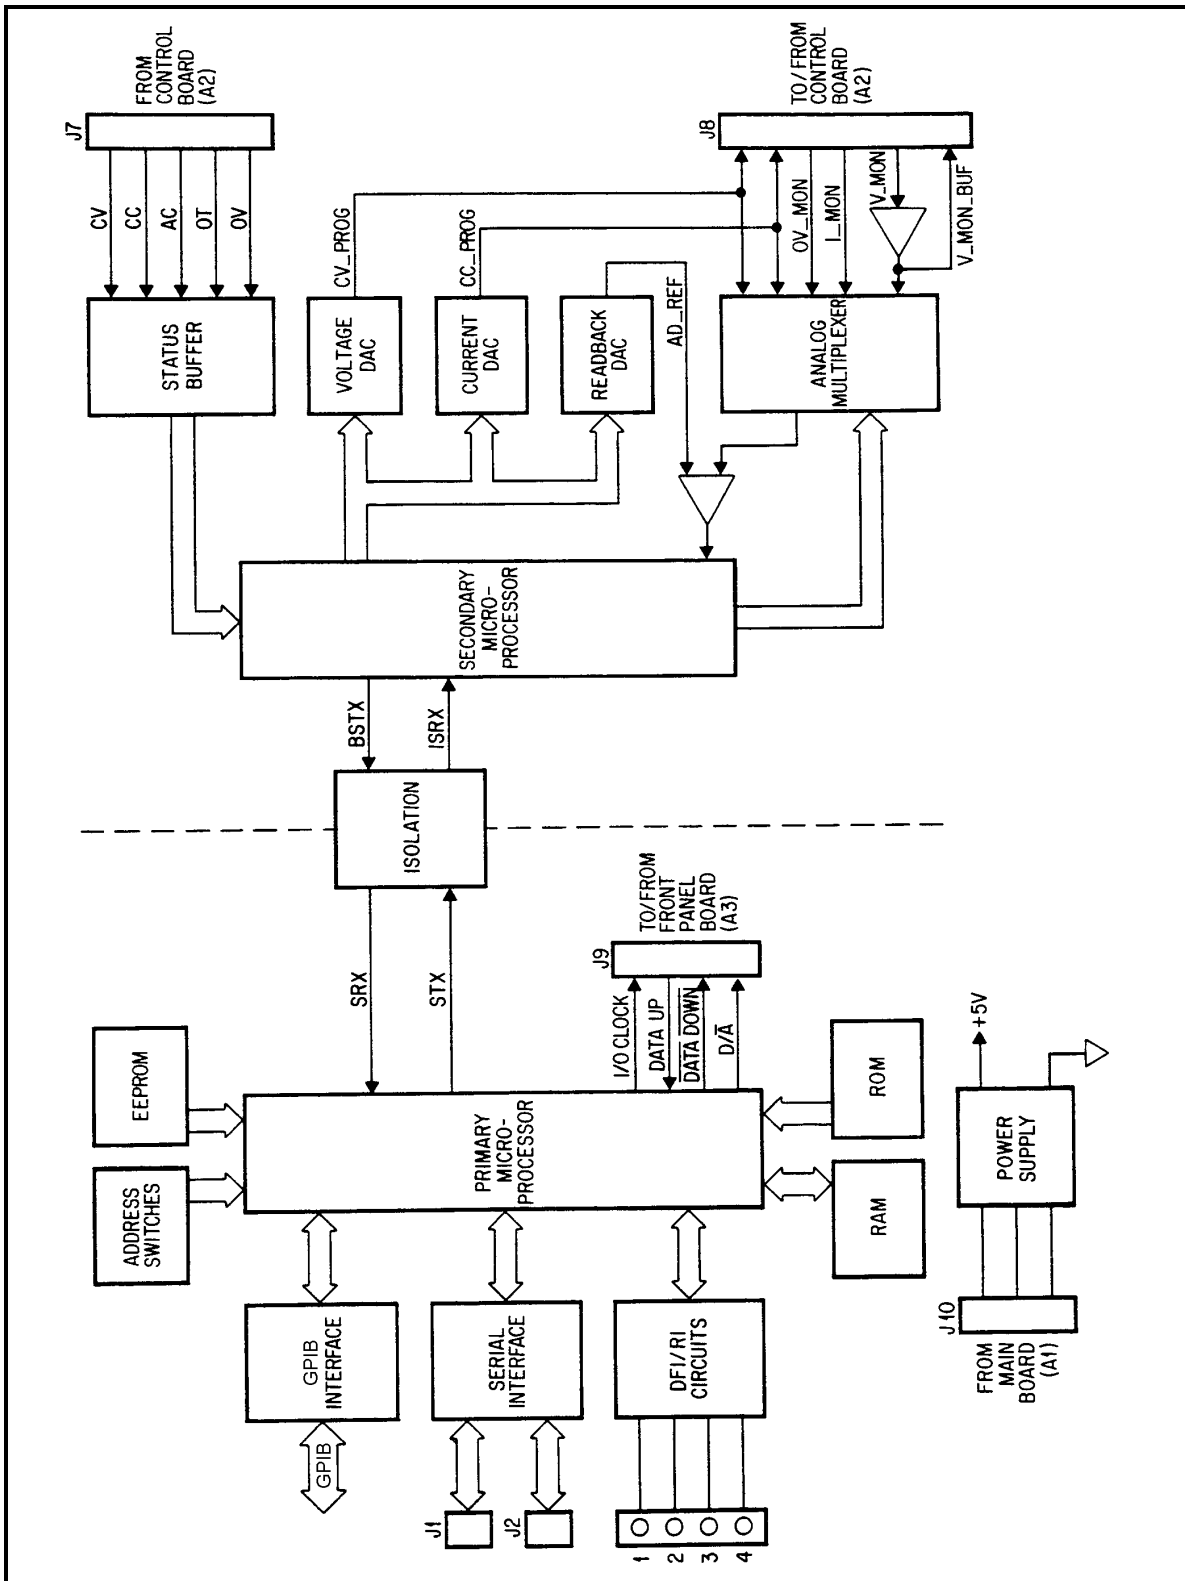

Figure 4-1. GPIB Block Diagram
Circuits on the GPIB board, see Figure 4-1, provide the interface between the power supply and the user, generate the fault/inhibit and relay controls signals (DFI/RI), and supply the analog control and reference signals for the power mesh and readback circuit. Two microprocessors (primary and secondary) control all data communication between the power supply and the user. Additional circuits on the GPIB board include the serial interface ports, address switches, an EEPROM, and status registers.
2. MAIN BOARD POWER SUPPLIES ARE SHOWN IN FIGURE 4-1.